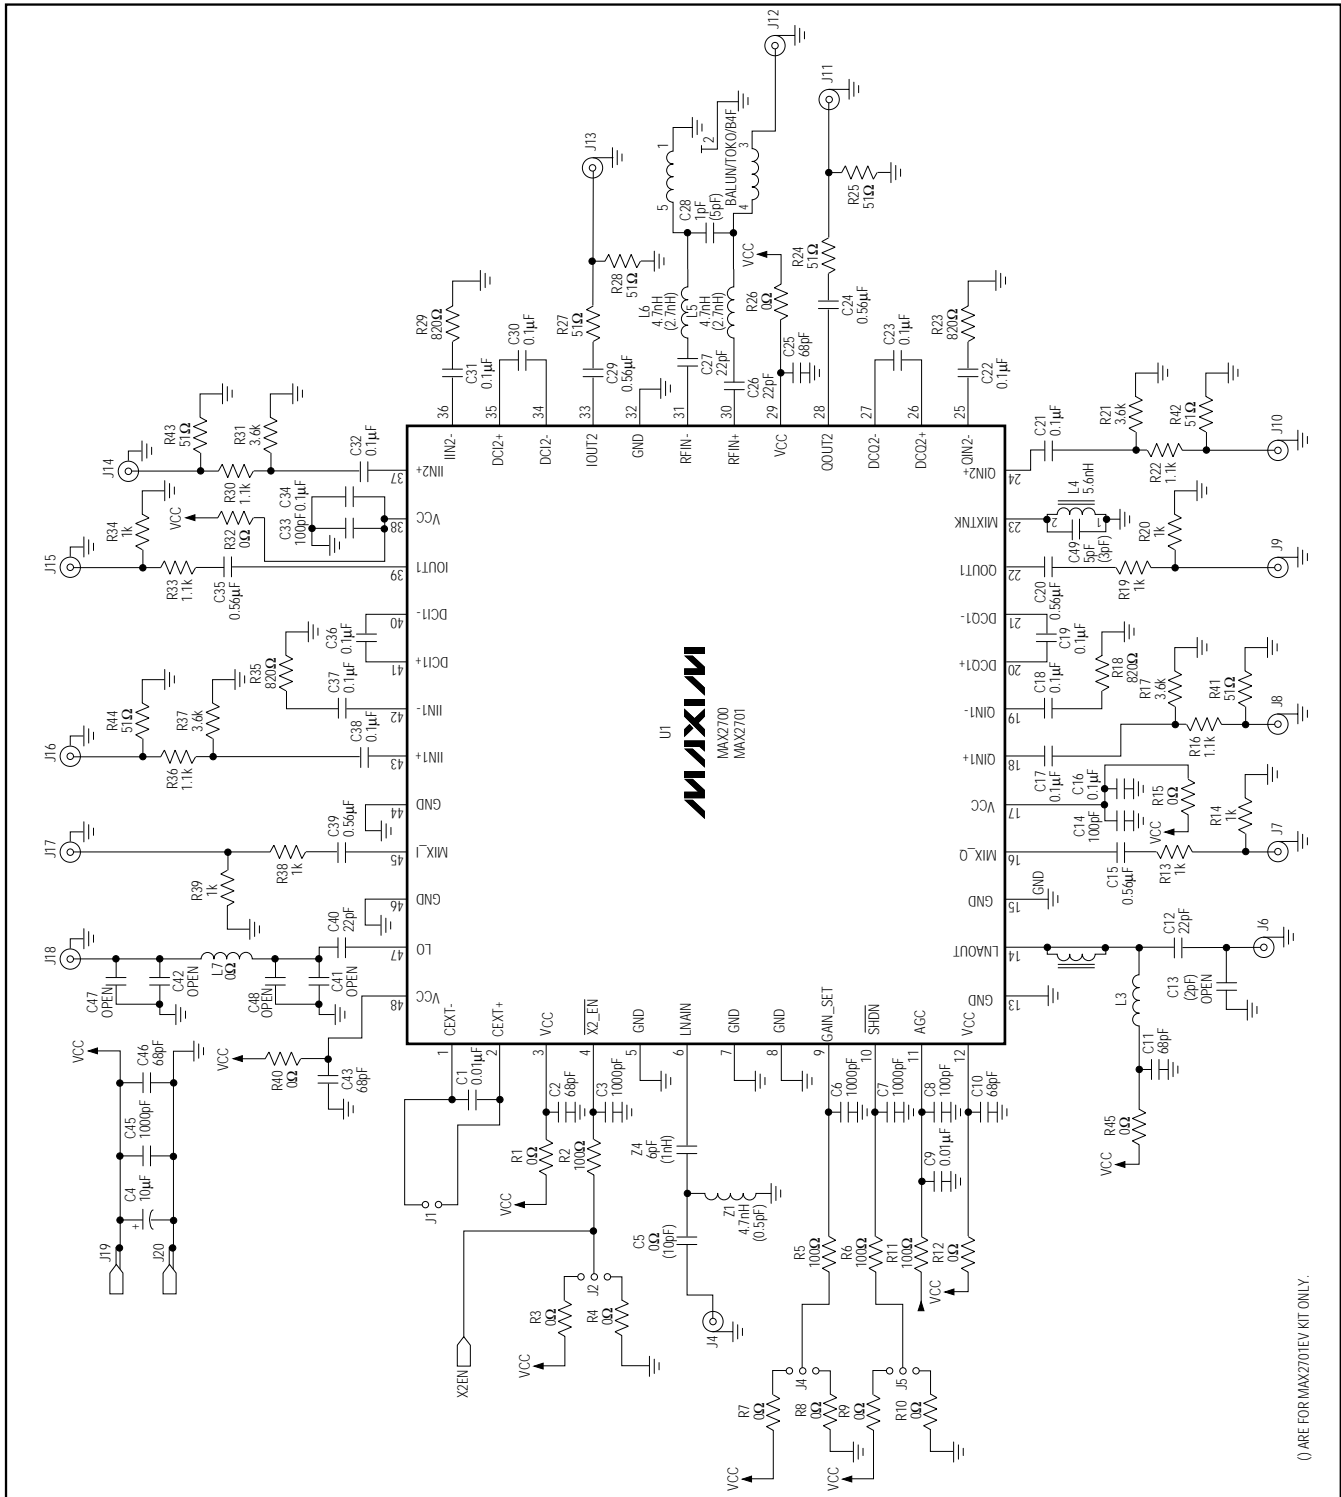

Figure 3. MAX2700/MAX2701 EV kit Schematic
(MAX2700/MAX2701 EV kit (Figure 3), $V_{CC} = +3.0V$, $T_A = +25^\circ C$, $\overline{SHDN} = GAIN_SET = V_{CC}$, $\overline{X2_EN} = GND$, CEXT+ connected to CEXT-, $P_{LO} = -13dBm$, $F_{LO} = 980MHz$ (MAX2700) and $1200MHz$ (MAX2701), $P_{LNAIN} = -30dBm$, $P_{RFIN} = -25dBm$, LNAIN and RFIN (single-ended input to balun) driven from 50Ω source, LNAOUT terminated into load; MIX_I, MIX_Q AC-coupled to $2k\Omega$ load; IIN1+, QIN1+, IIN2+, QIN2+ driven from $1.1k\Omega$ AC-coupled source; IOUT1, QOUT1 AC-coupled to $2k\Omega$; IOUT2, QOUT2 AC-coupled to 100Ω ; input to VGAs, $20mVp-p$ at $1MHz$ tone, set $V_{AGC} = 1.25V$, unless otherwise noted.)
(MAX2700/MAX2701 EV kit (Figure 3), $V_{CC} = +3.0V$, $T_A = +25^\circ C$, $\overline{SHDN} = GAIN_SET = V_{CC}$, $\overline{X2_EN} = GND$, CEXT+ connected to CEXT-, $P_{LO} = -13dBm$, $F_{LO} = 980MHz$ (MAX2700) and $1200MHz$ (MAX2701), $P_{LNAIN} = -30dBm$, $P_{RFIN} = -25dBm$, LNAIN and RFIN (single-ended input to balun) driven from 50Ω source, LNAOUT terminated into load; MIX_I, MIX_Q AC-coupled to $2k\Omega$ load; IIN1+, QIN1+, IIN2+, QIN2+ driven from $1.1k\Omega$ AC-coupled source; IOOUT1, QOUT1 AC-coupled to $2k\Omega$; IOOUT2, QOUT2 AC-coupled to 100Ω ; input to VGAs, $20mVp-p$ at $1MHz$ tone, set $V_{AGC} = 1.25V$, unless otherwise noted.)
*C19, C23, C30, C36 in the EV kit schematic in Figure 3 represent DC offset capacitors.